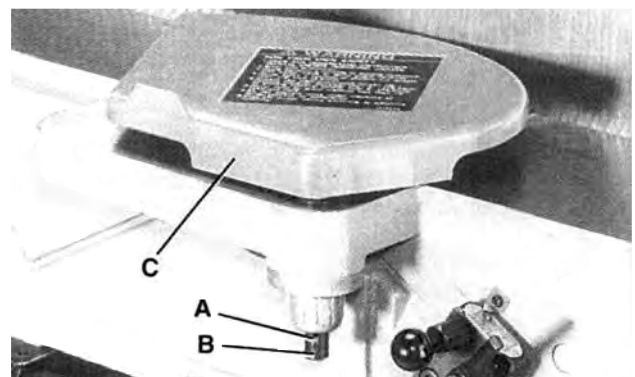

FIGURE 20
3. Thread set screw (A) Fig. 20, which was removed in **STEP 1**, back into post (B) to keep cutterhead guard (C) in position during jointer operation.
4. Fig. 20 illustrates the cutterhead guard (C) assembled to the infeed table.